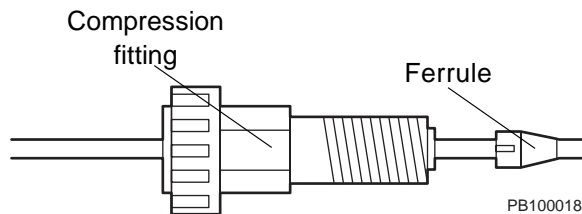

Figure 3-2 Connecting Rheodyne RheFlex Fittings to Tubing
- Rheodyne RheFlex® fittings (Figure 3-2)
1. Slide a compression fitting over the end of the tubing (Figure 3-2).
2. Slide a split ferrule over the end of the tubing, with the tapered end of the ferrule pointing away from the compression fitting. The split end of the ferrule should point toward the compression fitting. Make sure at least 1/16 inch of tubing extends beyond the ferrule (Figure 3-2).